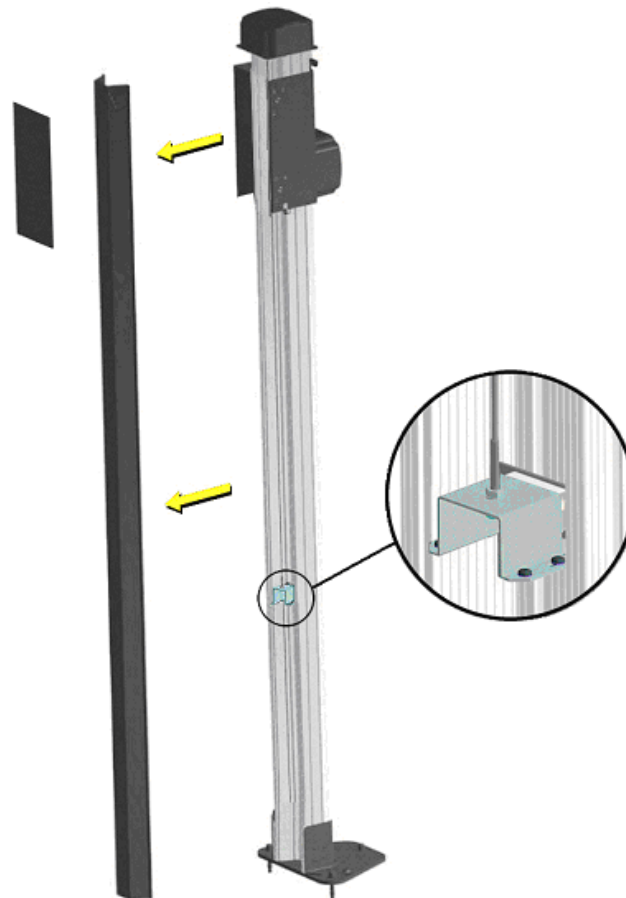

Figure 12
5. Remove the carriage back cover and tower back cover. See Figure 12.